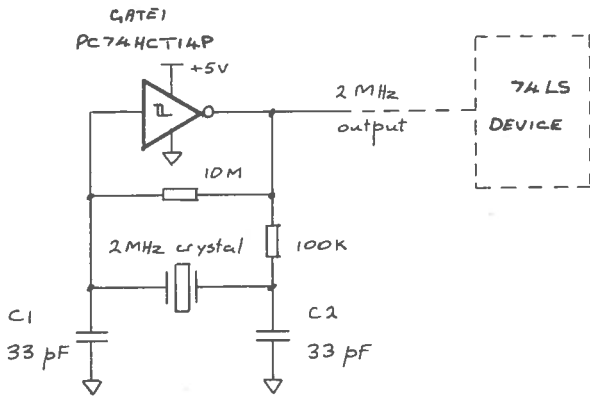

Fig.3 - Circuit - 2 MHz oscillator
A CMOS inverter gate (1) is connected across the crystal (Fig.3) so that at switch-on a transient surge across the crystal sets it oscillating. The gate provides the electrical energy for maintaining these oscillations, its output driving one contact of the crystal to the opposite polarity of that on the other face.
The output from gate 1 is capable of driving 74LS packages. No intermediate buffer or driver is required. The direct drive link-up is shown in Figure 3.